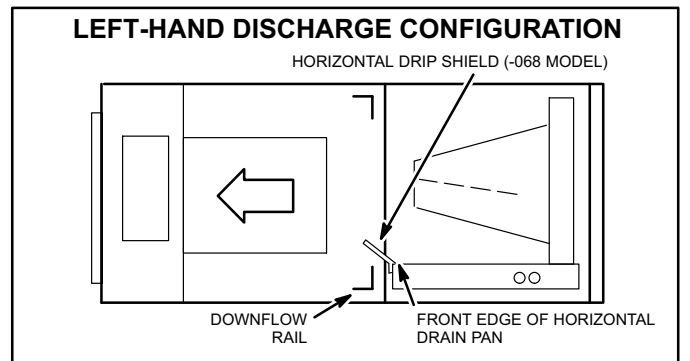

FIGURE 29
- 10- Install the horizontal shield (-068 model) on the front edge of the horizontal drain pan as shown in figure 29.